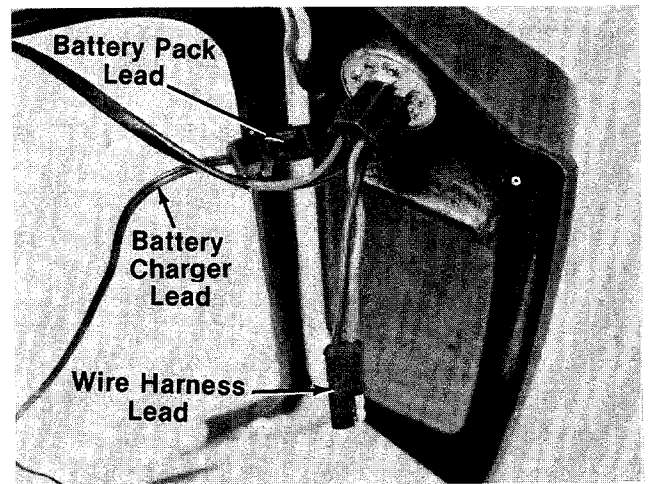

FIGURE 10. Model 296
- A. Unplug the wire harness from the battery pack. See figure 10.